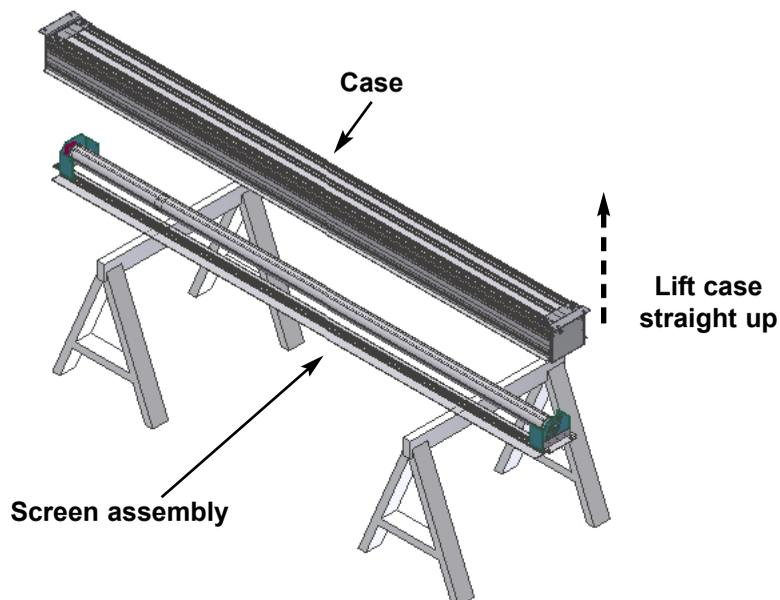

Figure 4: Case lifted before being placed adjacent to screen assembly
- Lift the case straight up to avoid contact with screen material. Place the case adjacent to the screen assembly on the sawhorses. Refer to Figure 4.